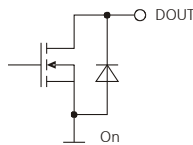

Fig. 7 Open drain output
The DLS-B(H) contains two digital outputs for level monitoring (DO 1 and DO 2) and one digital output for error signalization (DO E). These outputs are open drain outputs as shown in figure 7 and can drive up to 200mA. Maximum switching voltage is 30V DC. In the ON state, the FET transistor is electro conductive.